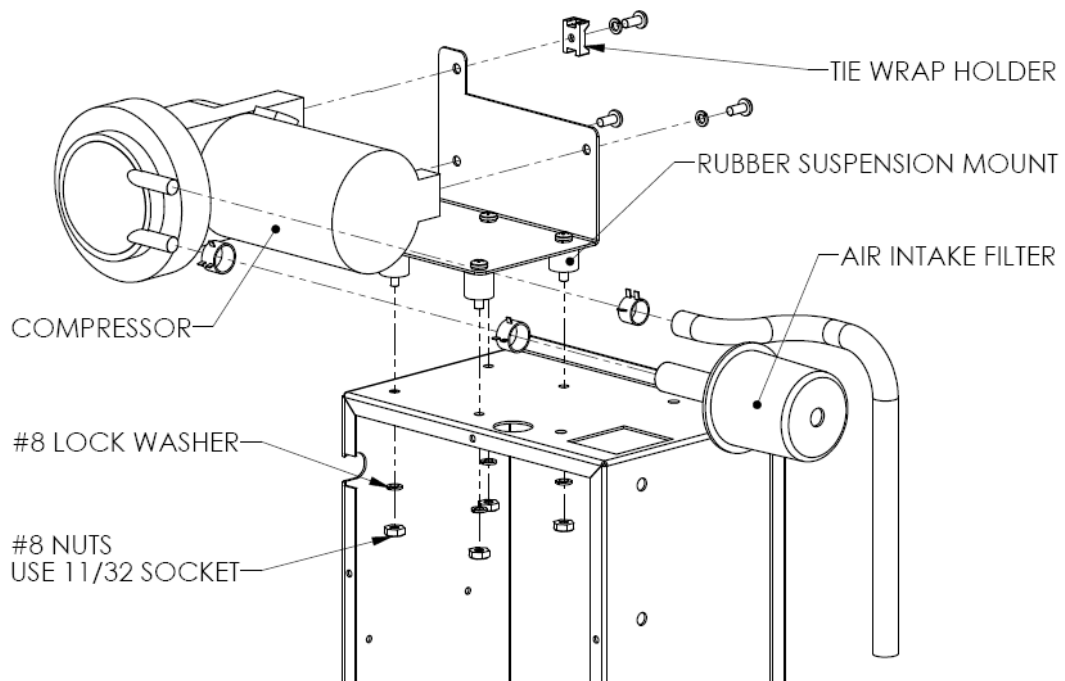

Figure 12: Compressor components
7. Pull out the burner and the counter-flow tube (see Figure 12) and clean them with carb cleaner.